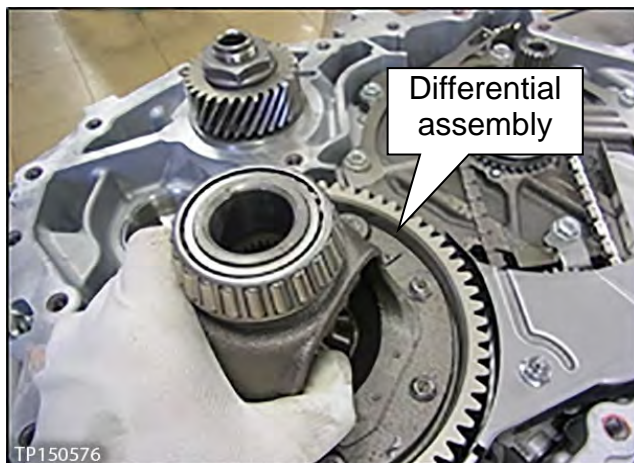

Figure 13I
12. Install the differential assembly and the reduction gear assembly into the CVT case (Figure 13I).